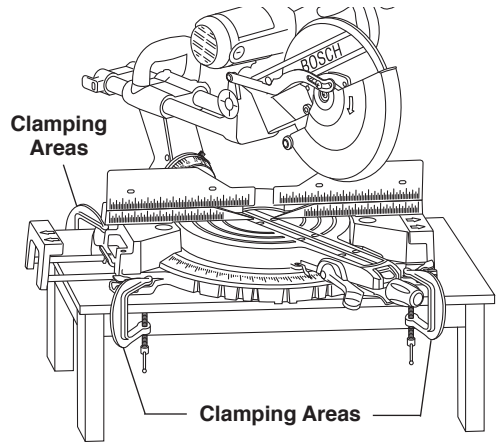

Figure 17. Portable Mounting Using Clamps
- Place two (2) or more “C” clamps on the clamping areas and secure (Figure 17).
- Be careful not to place clamps over the base extension clamping levers (Figure 17).